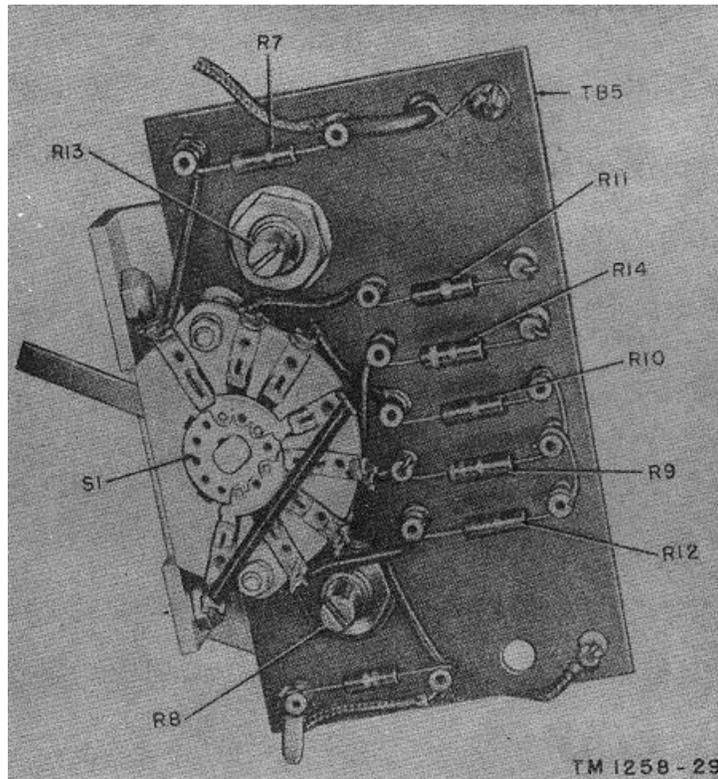

Figure 32. Deviation multiplier switch assembly.
- (1) Pull off the knob from the lever of S1.
- (2) Remove the two screws which secure this assembly to the front panel.
- (3) Swing the assembly clear of the front panel.
- (4) Unsolder the leads; remove and replace the part (fig. 32).